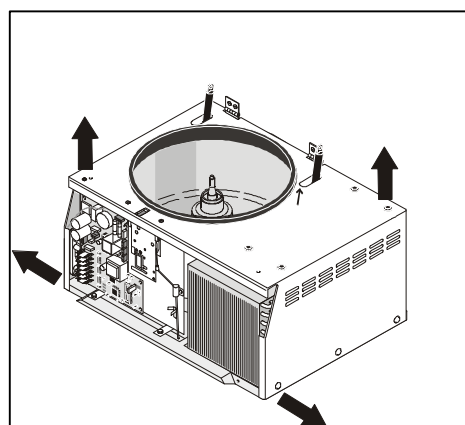

Figure 6
5.1.4 Centrifuge Casing (220)
- Unscrew all fastening screws in front (221) and in the back (226) (and on MEGAFUGE 1.0R/2.0RS additionally on the sides) and remove them with the appropriate washers (222/225).
- Pull the casing a little by the lower edges (A) and lift it upwards via the gas-filled lid stay (302) (B). (Figure 6)